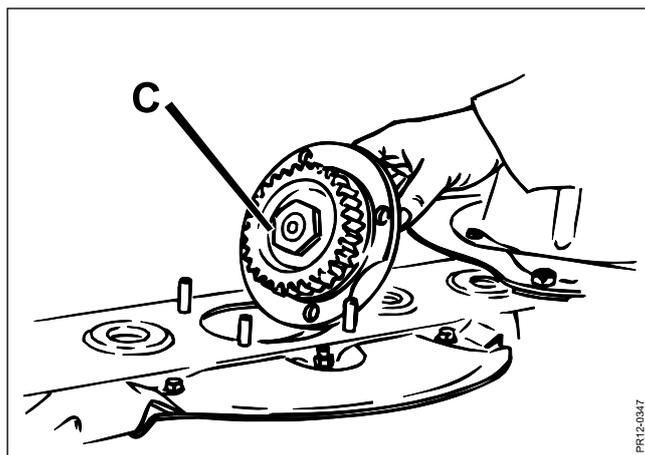

Fig. 5-13
- Fig. 5-13** A cutter bar is used on which each hub **C** below the discs is easily replaced from above (Top Service cutter bar).